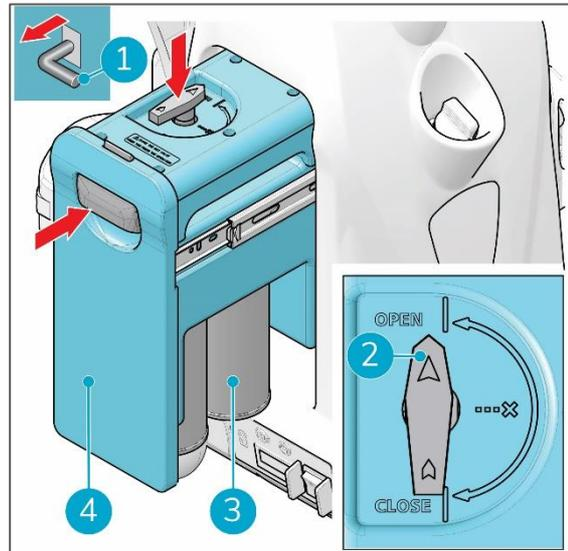

Figure 15
When the fluid is low the heater automatically shuts down and the lance starts to cool down. The fluid indicator on the side is illuminated and flashes when level of cleaning fluid is low. Switch off the machine via the main power switch (Figure 15, pos 2) and refill the gum remover solution tank (see 6.1.3).
1. Turn on the i-gum[®] using the main power switch on the bottom (Figure 15, pos 2) left of the body.
4. Press the ON/OFF button (Figure 15, pos 7) on the handle control.
5. Press the H/M/L multi function button (Figure 15, pos 5).
7. Check the rinse indicator light (Figure 15, pos 4). When the indicator light L is on, the pump runs in full speed.
8. Release the H/M/L multi function button (Figure 15, pos 5) when rinse indicator light is on.
10. Press the ON/OFF button (Figure 15, pos 7) on the handle control to turn off the machine, before walking to the jobsite.